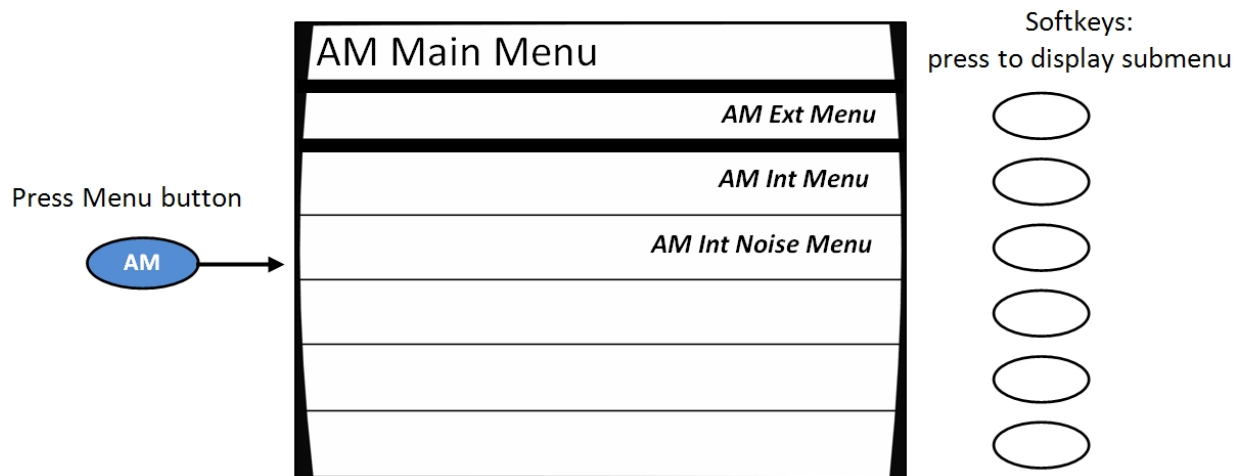

Figure 16: AM Main Menu and Submenus
Press the AM Menu button to display the AM Main Menu. From here, you can go to one of three submenus. See Figure 16 below.
8.	Press  to display the AM Main Menu (see Figure 16 on page 36).